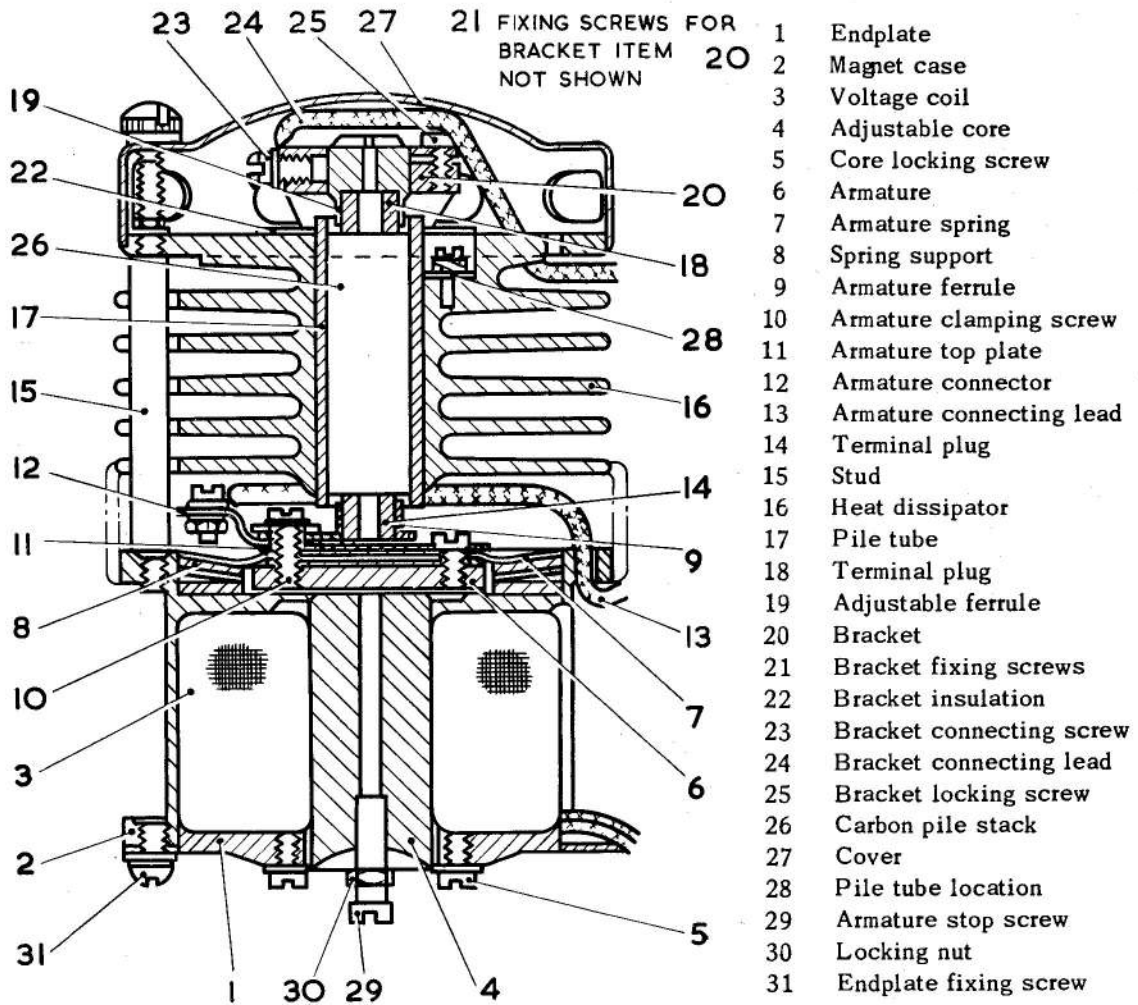

Fig.2 Regulator unit
4. The regulator unit (*fig.2*) is mounted on a base under which are housed the adjustable ballast, fixed ballast and trimmer diverter resistors, the rectifier and capacitors.